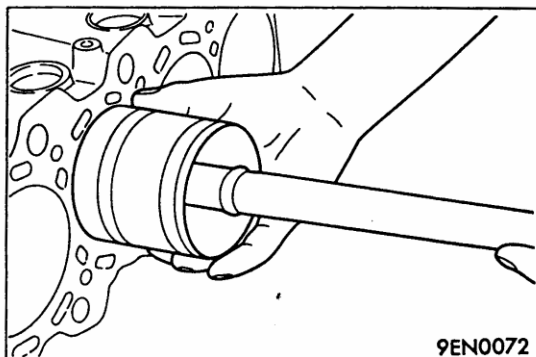

Fig.4-55
- d Compress the piston rings tightly with a suitable ring compression tool, then press the piston and connecting rod fully into the cylinder. Do not strike the piston hard since the piston rings may break and the crank pin may be nicked, see Fig.4-55.